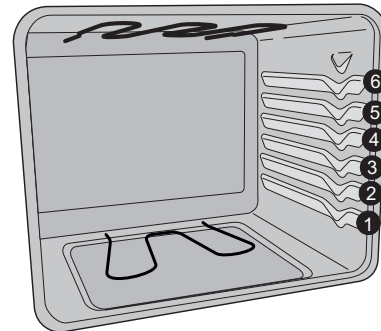

Figure 8: Rack positions
- When baking using two oven racks, position cookware to allow at least 2 inches (5 cm) of space between cookware for proper air circulation and position pans as shown in Figure 8.